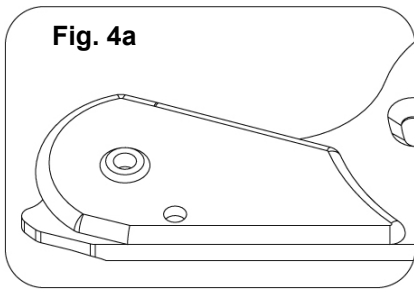
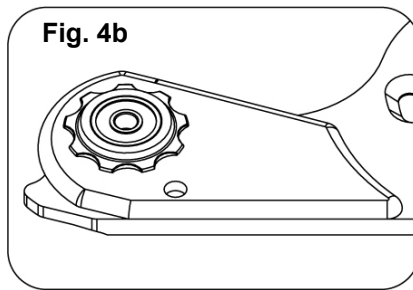

Fig. 4a
Fig. 4b
6) Installing lower slider and chain idler: Place the lower slider on the crank side of back plate as shown in **Fig. 4a**. Next place the idler pulley on top of the lower slider; the hole of the idler should match up with the upper hole on the lower slider as shown in **Fig. 4b**.